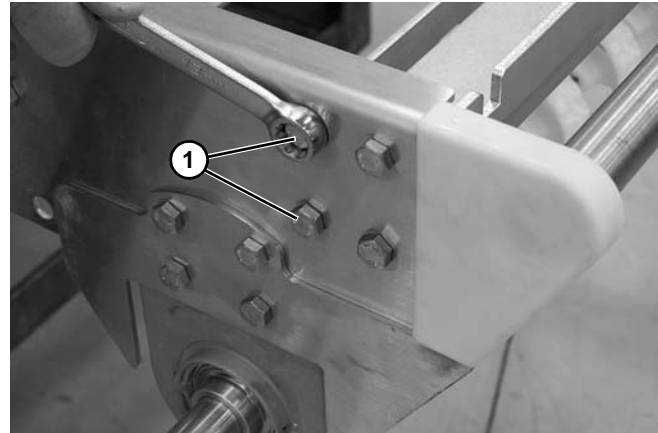

Figure 53
3. Remove the four headplate bolts (Figure 53, item 1).